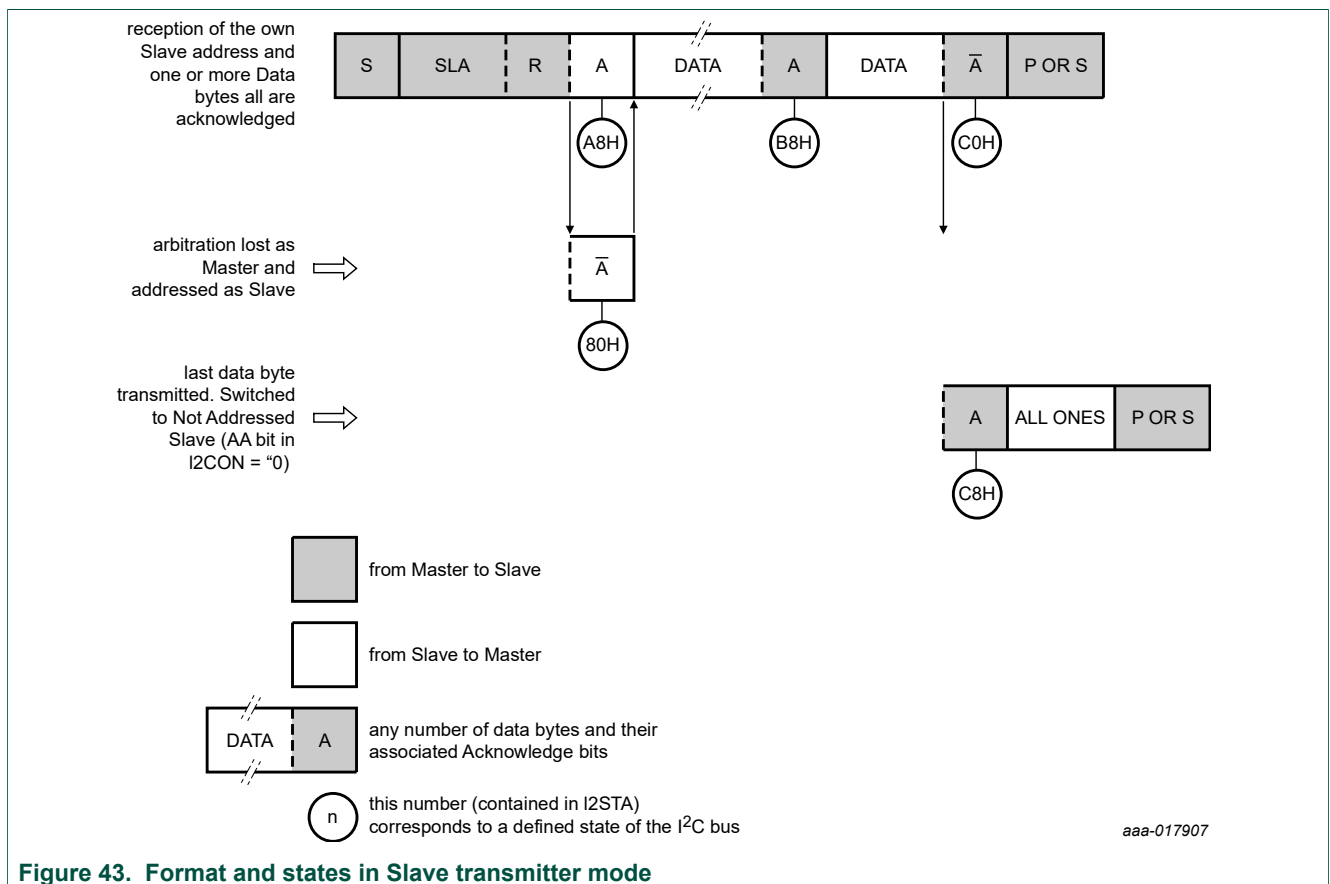

Figure 43. Format and states in Slave transmitter mode
In the Slave transmitter mode, a number of data bytes are transmitted to a master receiver (see Figure 43). Data transfer is initialized as in the Slave receiver mode. When ADR and CON have been initialized, the I2C-bus block waits until it is addressed by its own slave address followed by the data direction bit. The data direction bit must be logic 1 (Read) for the I2C-bus block to operate in the Slave transmitter mode. After its own slave address and the R bit have been received, the serial interrupt flag (SI) is set and a valid status code can be read from STAT. This status code is used to vector to a state service routine, and the appropriate action to be taken for each of these status codes is detailed in Table 226. If arbitration is lost while the I2C-bus block is in the Master mode (see state 0xB0), the Slave transmitter mode may also be entered.